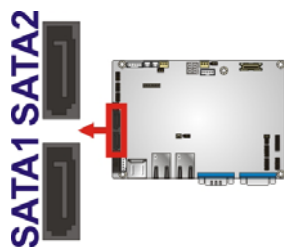

Figure 3-17: SATA Drive Connector Location
- CN Location:** See **Figure 3-17**